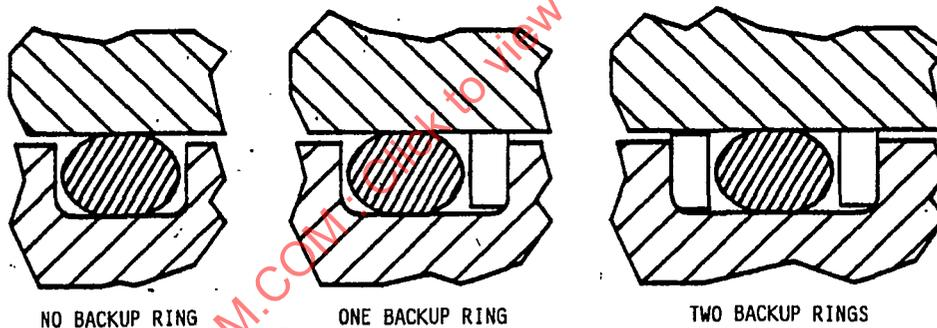

FIGURE 3 - Backup Rings
- 3.3.1 MIL-G-5514 Glands: O-ring glands are identified either as a NO backup ring gland, a ONE backup ring gland, or a TWO backup ring gland (Figure 3), and as an internal gland (for I.D. or rod sealing) or an external gland (for O.D. or piston sealing). The diametral extrusion clearances resulting from using the standard dimensions and tolerances are intended for sealing with normal hydraulic operating pressures up to 3000 psi, and with hydraulic fluid temperatures within the range of -65 to $+275$ °F when used with backup rings. The NO backup ring gland configuration may be used at pressures below 1500 psi. Higher pressures and/or higher temperatures may require extrusion clearances that are less than those provided by the standard dimensions of MIL-G-5514, and/or special backup ring configurations and materials.